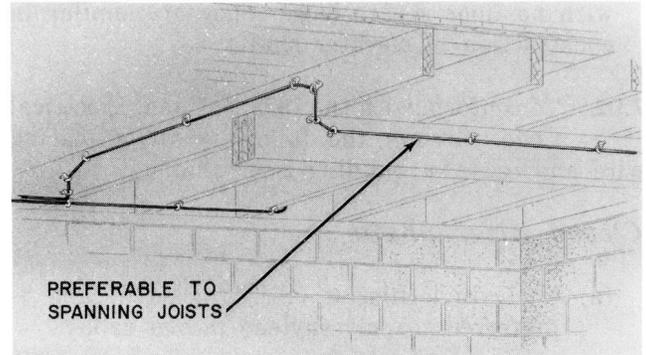

Fig. 7—Spanning Joist
- (g) If necessary to span joists, run wiring not more than 3 inches from wall (Fig. 7).